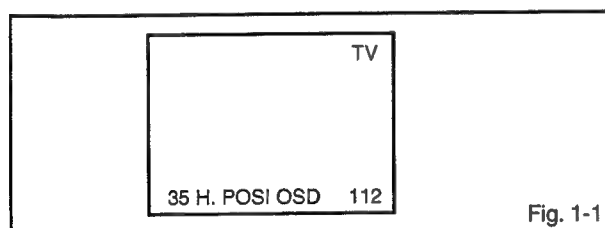

Fig. 1-1
1. In the condition of NO indication on the screen. Press the VOL. DOWN button on the set and the Channel button (9) on the remote control for more than 2 seconds to appear the adjustment mode on the screen as show in FIG. 1-1.
4. Activate the adjustment mode display of Fig. 1-1 and press the channel button (01) on the remote control to select "RF AGC".
2. Activate the adjustment mode display of Fig. 1-1 and press the channel button (00) on the remote control to select "CUT OFF".
4. Activate the adjustment mode display of Fig. 1-1 and press the channel button (04) on the remote control to select "R CUT OFF".
3. Activate the adjustment mode display of Fig. 1-1 and press the channel button (08) on the remote control to select "H POSI(50)".
7. Activate the adjustment mode display of Fig. 1-1 and press the channel button (39) on the remote control to select "H POSI(60)".
3. Activate the adjustment mode display of Fig. 1-1 and press the channel button (11) on the remote control to select "V SIZE(50)".
7. Activate the adjustment mode display of Fig. 1-1 and press the channel button (12) on the remote control to select "V SIZE(60)".
2. Activate the adjustment mode display of Fig. 1-1. Press the VOL. UP/DOWN button on the remote control
4. Activate the adjustment mode display of Fig. 1-1 and press the channel button (17) on the remote control to select "BRIGHT CENT".
1. Activate the adjustment mode display of Fig. 1-1 and press the channel button (22) on the remote control to select "CONT CENT".